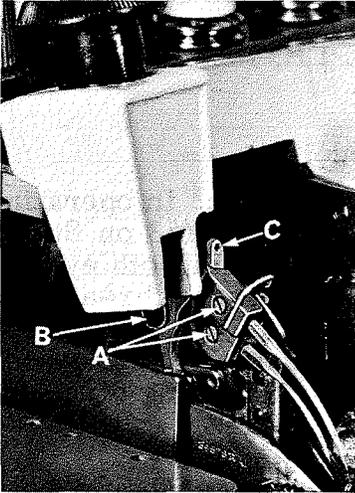
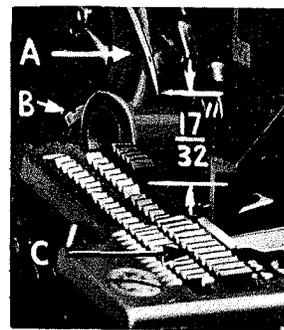

Fig. 2
Fig. 4
Release pressure on presser foot by turning the presser foot release bushing (A, Fig. 1) and swinging presser arm (B) out of position. Turn handwheel in operating direction (away from operator) until needle holding screws (A, Fig. 2) are just exposed from behind presser spring plunger (B) and accessible to screwdriver. Loosen screw and withdraw needle. When replacing needles observe the position of the flat which is at the left of the shank and be sure the needle is inserted the full depth to the combination eyelet and stop plate (C).
Release the pressure on presser arm and swing arm out of position. Insert both needles (Type 158 GJ for the 401 stitch and Type 154 GAS for the overedge stitch) into the left and right holes, respectively, of the needle driving arm (A, Fig. 4), so that the butt ends contact the stop plate. Secure needles in this position with clamp screws (A, Fig. 2).
With throat plate assembled in position, the needles should center in the throat plate needle holes. To align the needles, loosen clamp screw (B, Fig. 4) and move needle driving arm to the left or right as required. Gauge No. 21227 CR should be used to set the needle driving arm at the correct height. To use this gauge remove the left needle (401 stitch) and insert the gauge in its place. Be sure gauge seats against the stop plate. Turn the handwheel until needle driving arm is at its lowest position, at this point the gauge should just contact the throat plate. Tighten clamp screw (B, Fig. 4) after correct height has been obtained and needles have been centered in the throat plate needle holes. Remove throat plate.
If gauge No. 21227 CR is not available the correct needle height can be obtained by measuring  $\frac{17}{32}$  inch from the 401 needle point (left needle) to the top of the throat plate, when needle driving arm is at its highest point of travel (Fig. 4).